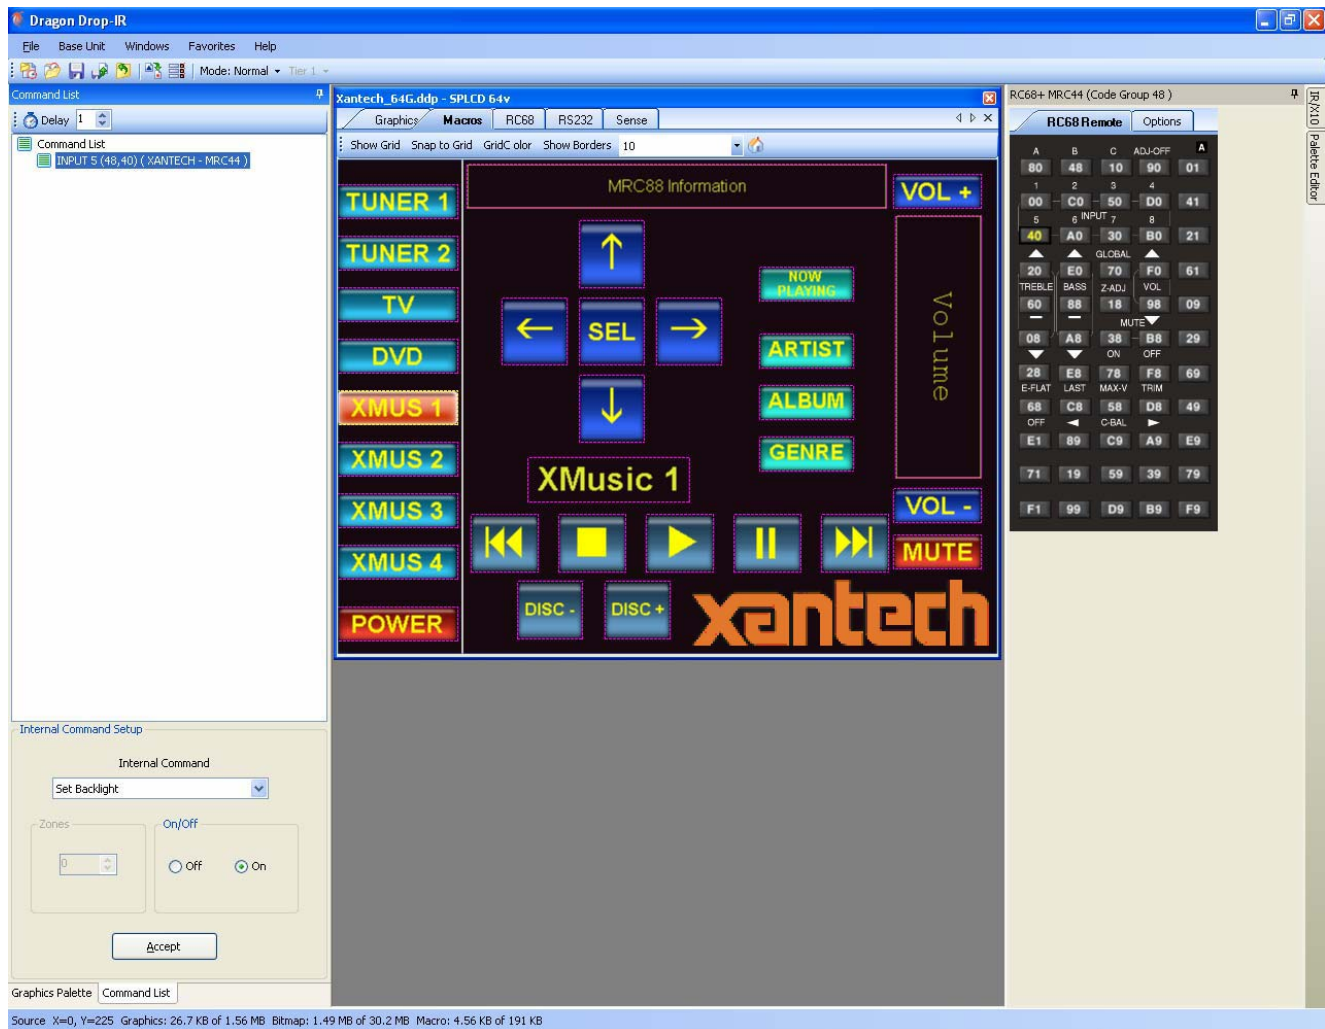

Figure 36 – Programming CSPLCD for MRC88 IR Control
8. Click on a Source Button GTL in the CSPLCD Systems Window that will select the component connected to INPUT 1 on the MRC88 (i.e. **CD** as shown in **Figure 36**).